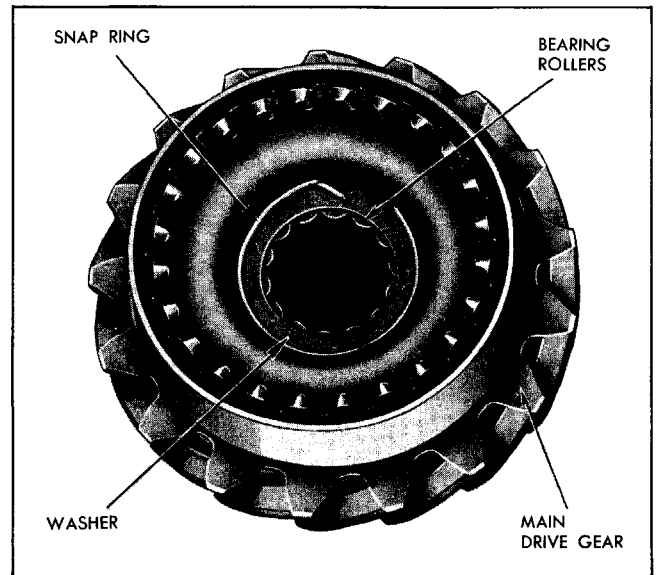

Fig. 7-31 Rollers, Washer and Retainer in Main Drive Gear
d. If necessary to replace any of mainshaft pilot bearing needle rollers, remove snap ring and washer from inside main drive gear and remove rollers (Fig. 7-31).